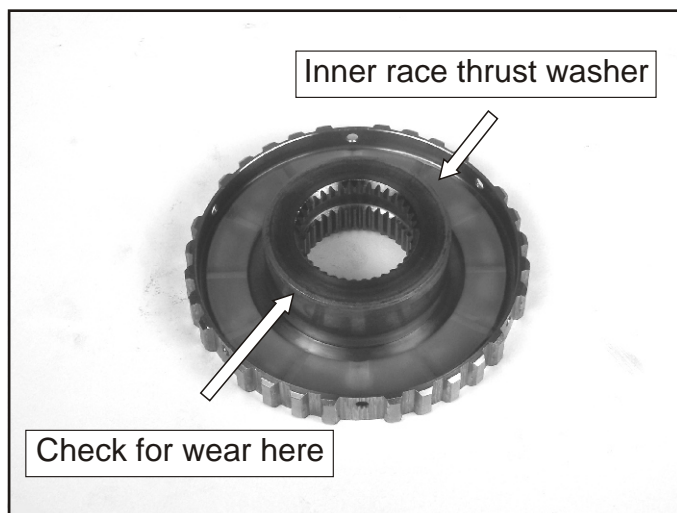

Figure 129
75. Turn the inner race upside down to check for wear in the area where the sprag rides. Replace as necessary. See Figure 129.